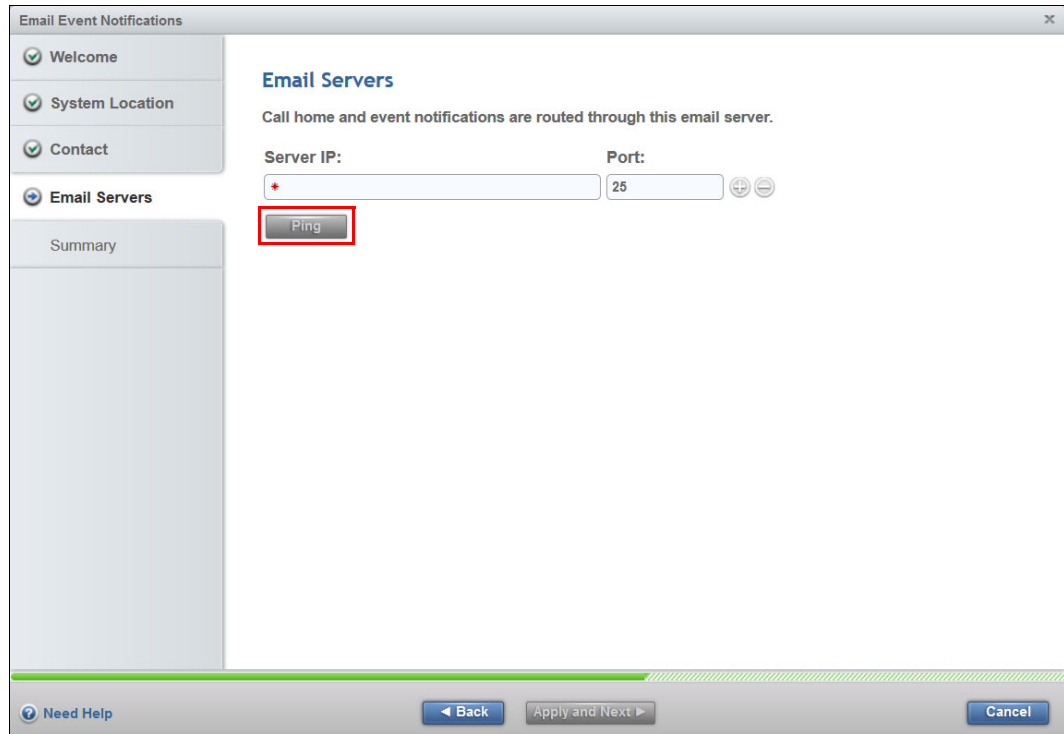

Figure 9-8 Specify and test the SMTP Gateway
6. Enter your SMTP gateway IP address (Figure 9-8 on page 411). You can click **Ping** to ensure that there is a response to the address, if your SMTP server allows the **ping** function. Use the plus sign to add extra SMTP servers. Click **Apply and Next** to move to the next panel.